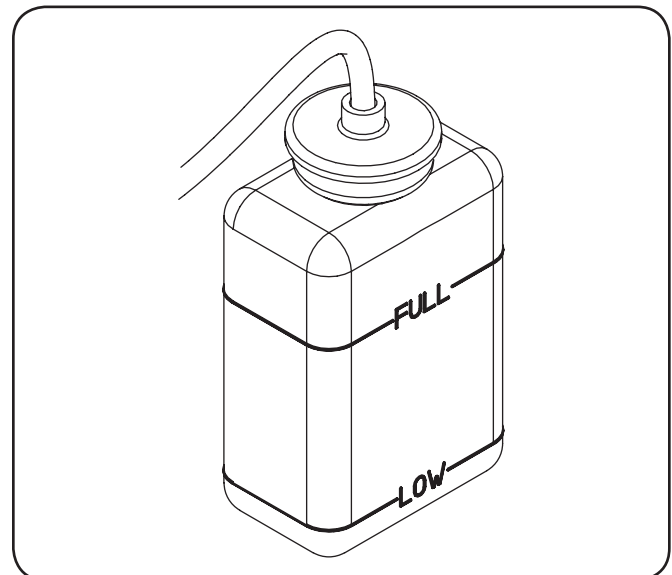

Figure 5-2
3. If the coolant level is below the "LOW" mark, remove the cap from the reservoir and add coolant solution to the "FULL" mark. Refer to Figure 5-2.